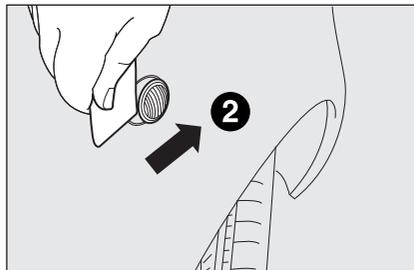

fig. 16b
- then lever in the opposite direction, by applying force from the back part (**2**-fig. 16b) and remove unit **B**